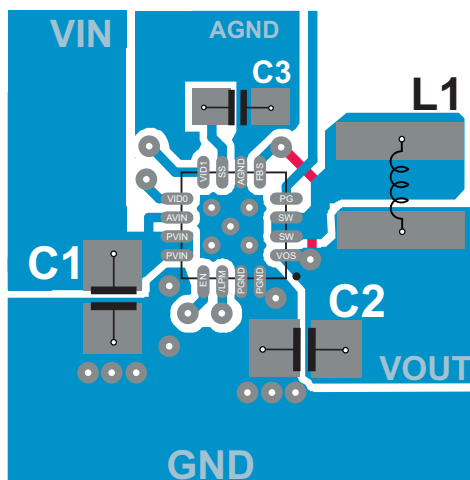

Figure 19. TPS62134x Layout Example
- See Figure 19 for an example of component placement, routing, and thermal design.